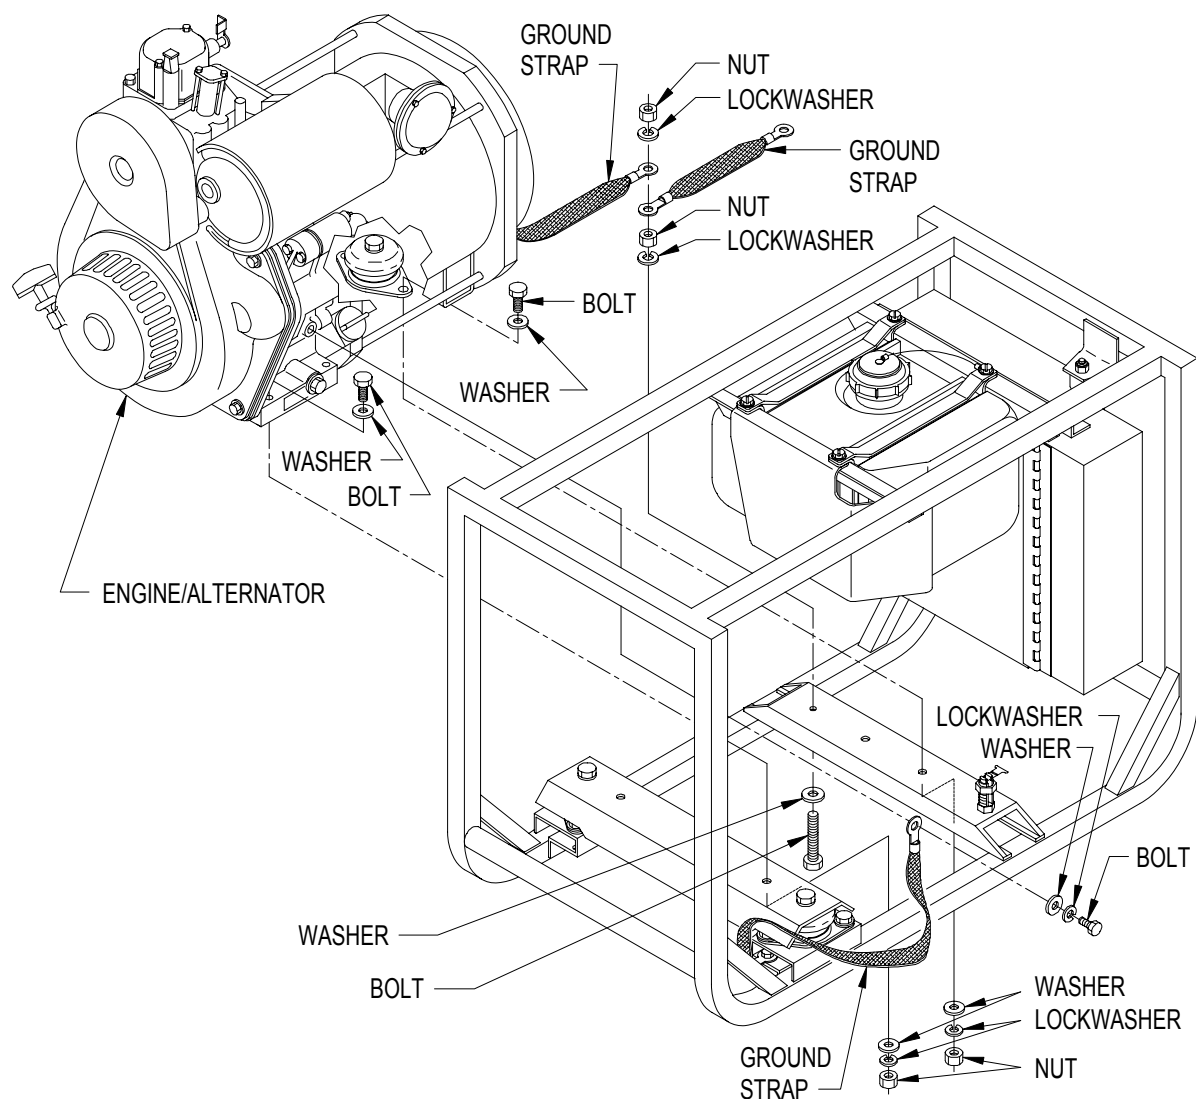

Figure 5-3 Engine/Alternator Assembly
(4) Open drain cock and drain fuel from fuel tank. Close drain cock.
(5) Loosen clamp and disconnect fuel supply line to fuel filter at fuel tank.
(6) Loosen clamp and disconnect fuel return line from fuel tank.
(7) Remove bolt (Figure 5-3), lockwasher, and washer securing engine ground strap to engine.
(8) Remove nuts, lockwashers, washers, and bolts securing engine to mounting bracket.
(9) Remove nut and lockwasher securing alternator ground strap to generator set frame.
(10) Remove nuts, lockwashers, washers, and bolts securing alternator resilient mount to generator set frame.
- (1) Position engine/alternator assembly (Figure 5-3) on generator set frame.
- (2) Secure alternator resilient mount to generator set frame with bolts, washers, lockwashers, and nuts. Torque nuts to 17 lbs-ft.
- (3) Secure engine to mounting bracket with bolts, washers, lockwashers, and nuts. Torque nuts to 35 lbs-ft.
- (4) Secure alternator ground strap to generator set frame with lockwasher and nut.
- (5) Attach engine ground strap to engine with washer, lockwasher, and bolt.